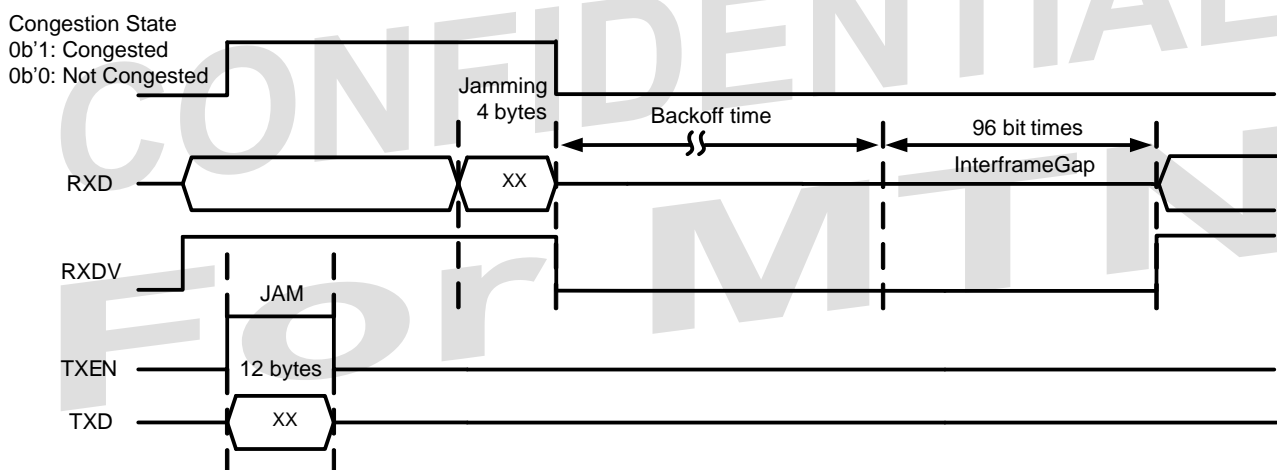

Figure 9. Signal Timing for Collision-Based Backpressure
- After the RTL8381M-VB receives this jamming signal, it drives RXDV low. The link partner waits for a random backoff time then re-sends the packet. The timing is shown in Figure 9